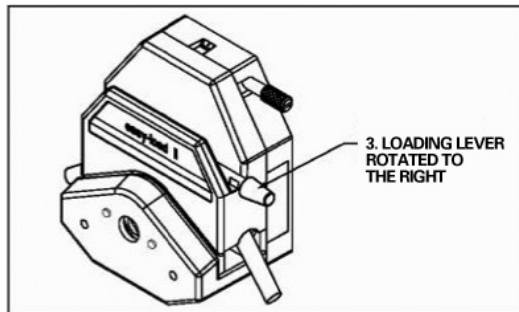

Figure 2: Close Pump Head
4. Rotate the lever to the right to close as shown in Figure 2.